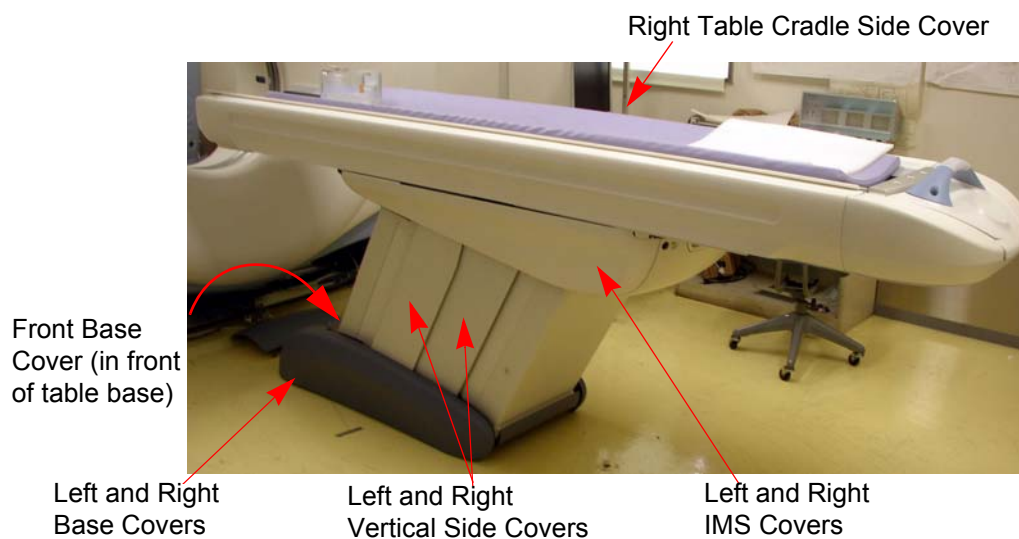

Figure 1-26 Table Covers (table shown with all covers installed)
- 1.) If installed, remove the table right side cover, as shown in Figure 1-26.